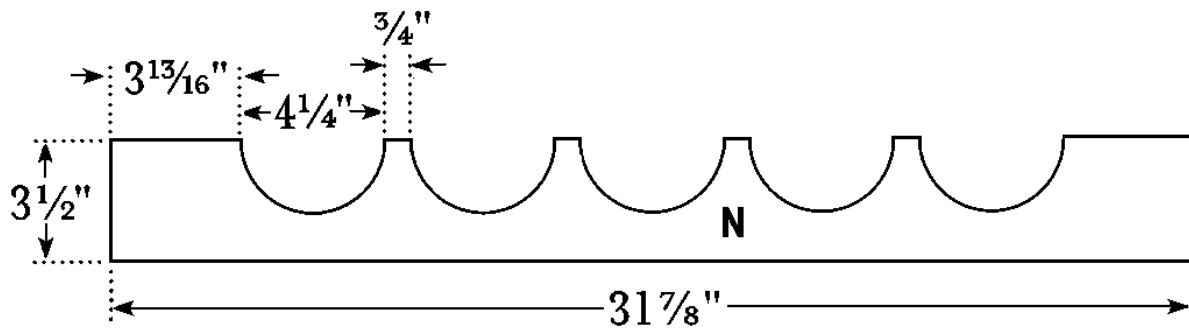

Figure 8
- Cut two Wine Bottle Supports (N) from 1 x 4 pine, each measuring $31\frac{7}{8}$ inches. Referring to *Figure 8*, cut five semi-circular cutouts to accommodate the bottom of the wine bottles. Each cutout has a radius of $4\frac{1}{4}$ inches. (Coincidentally, the cutout is the same diameter of a one-quart paint can). Use $1\frac{5}{8}$ " wood screws to attach the Wine Bottle Supports (N) level with and six inches behind the Horizontal Wine Trims (F). Screw